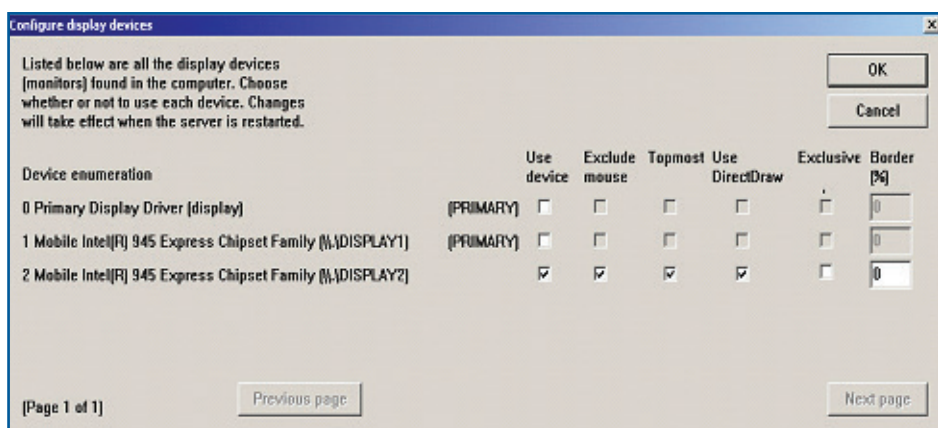

Figure 13
6. When using an external monitor connected to the CANTAB Intellistation, tick on the box to select *Use Device* for Device 2. Tick the *Exclude mouse* option, which disables the mouse on the client screen so be aware that this will disappear with the client screen up. Tick the *topmost* option, and also tick the *Use DirectDraw* option as shown in figure 13.